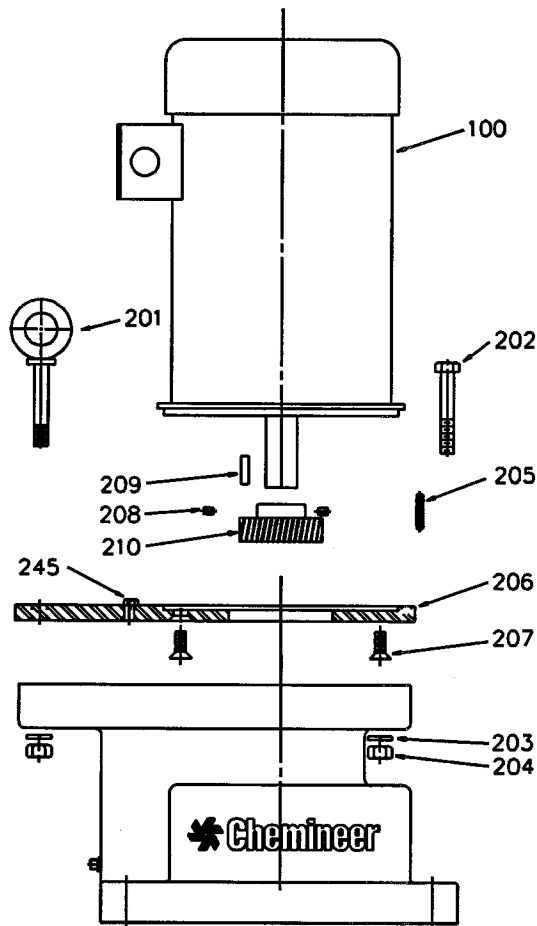

Figure 14: Remove Electric Motor
2. Remove eyebolts [201], hex bolts [202], and rollpins [205] (*see Figure 14*). Lift motor [100]/cover plate [206] assembly straight up until the motor shaft clears the bearing [224] or bushing [225], approximately 1-1/2 inches (38 mm).